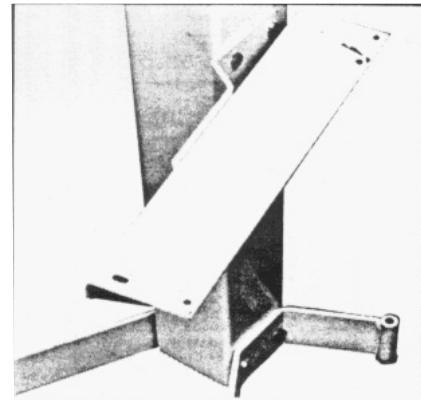

FIG. 9
- With the pump bracket mounting holes on the right-hand side of the main tube, attach the two legs to the main tube using four $\frac{3}{8}$ " cap screws and nuts. See FIG. 9, Item 1.
- Using two $\frac{3}{8}$ " cap screws and nuts, fasten the pump mounting bracket to the main tube. See FIG. 9, Item 2.